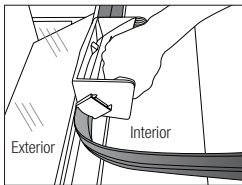

Figure 3
4. With the guide plate side away from the corner of the window, position the guide plate over the 3M Profile. Make sure to locate the tool so that the sliding surfaces on the guide plate side stay flush against the window and frame. (Figure 3)